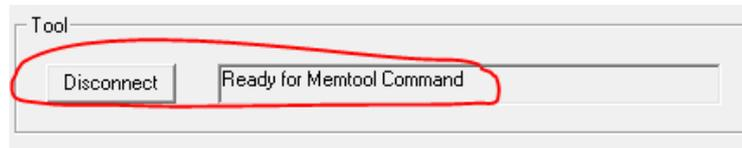

Figure 7: Connection to Target Established Info
9. The result should be as presented in Figure 7: